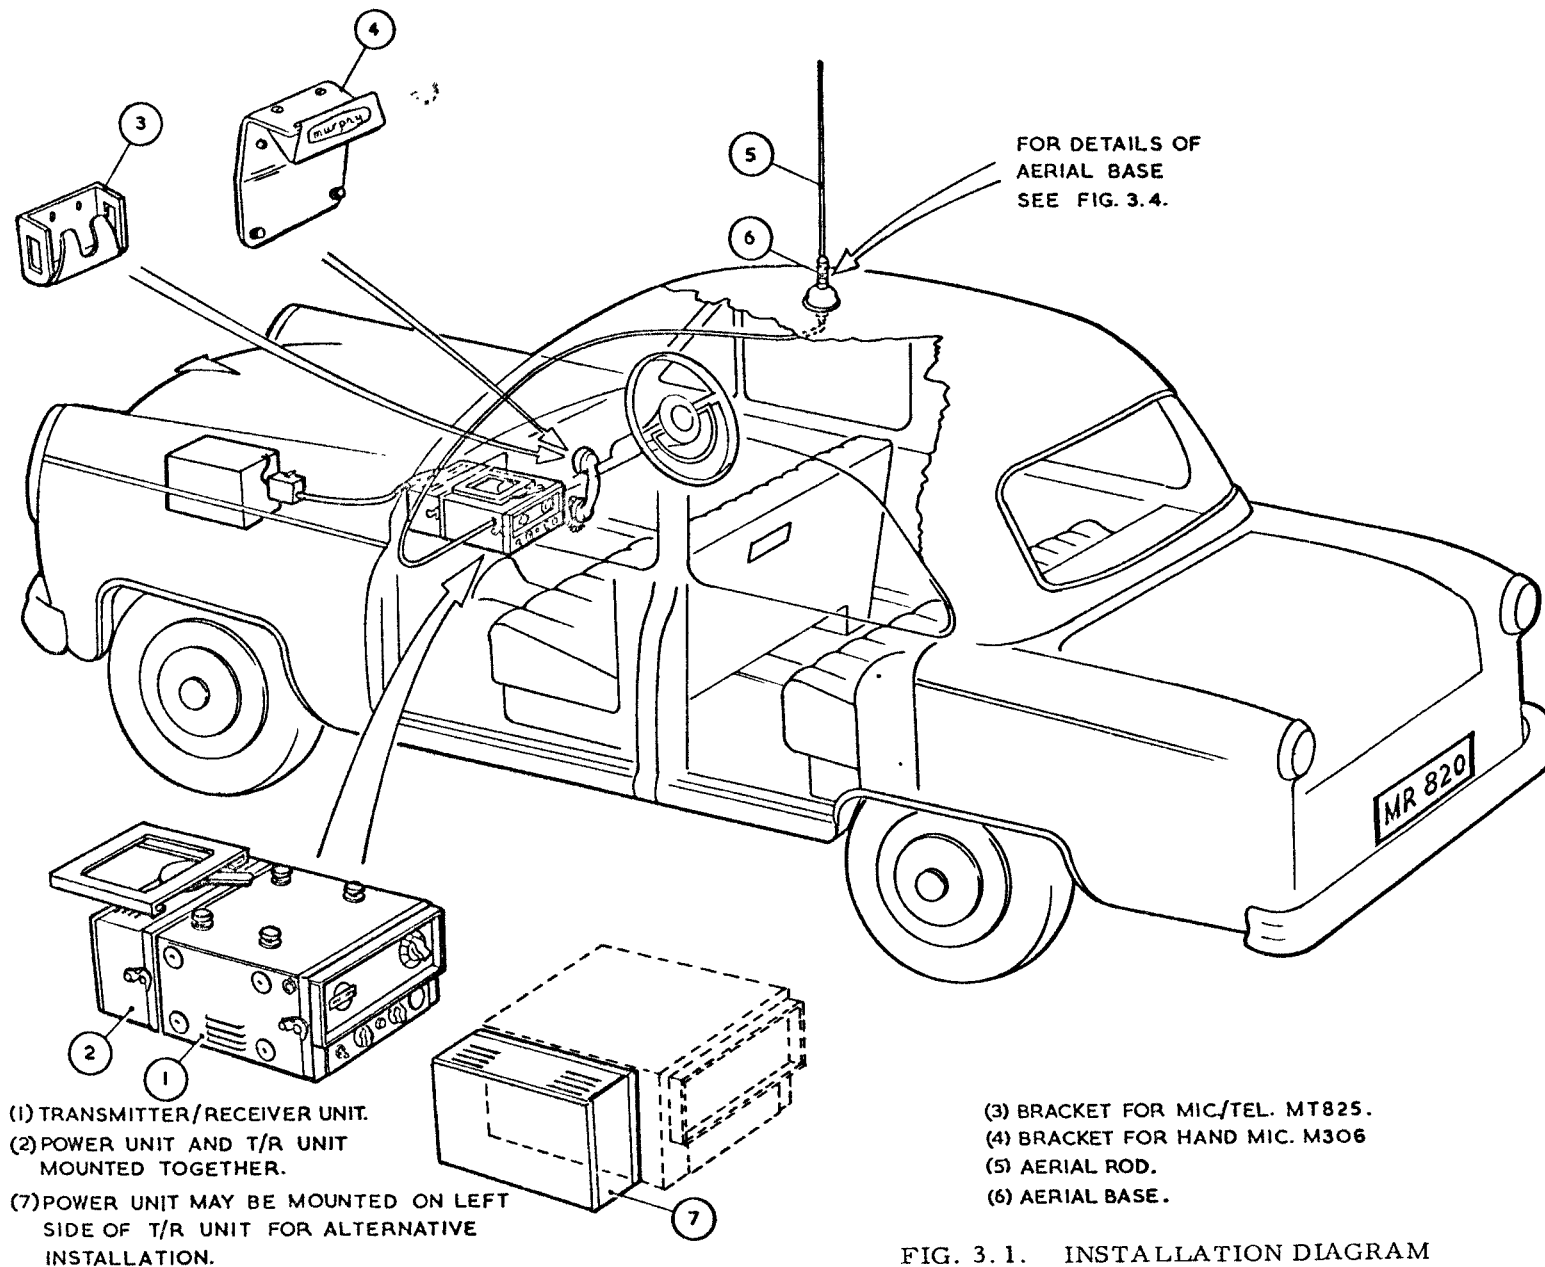

FIG. 3.1. INSTALLATION DIAGRAM
- 1.3. The Power Unit incorporates two transistors, and is constructed as a separate unit capable of being attached to the rear or left-hand side of the T/R Unit (See Fig. 3.1). A quarter-wave whip aerial is supplied, which is normally mounted on the roof of the vehicle as described in Paragraph 3.3.
- 3.2.7. Reference to Fig. 3.1. will show a hypothetical layout of units and cabling. It will, however, be readily appreciated that no hard and fast rule can be laid down regarding actual mounting positions or the routing of cables. Due to the many differing types of vehicle in which the MR820 equipment could be installed, these factors will be governed largely by the operator's individual requirements and the form of construction of the vehicle.